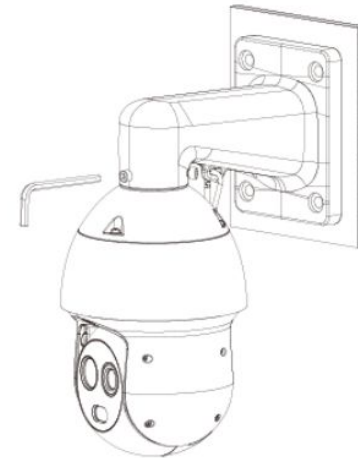

Figure 2-4
Step 4 Confirm that the screws on the mounting connector are firmly tightened, the safety cable is reliably connected and the speed dome is securely installed. See Figure 2-4.